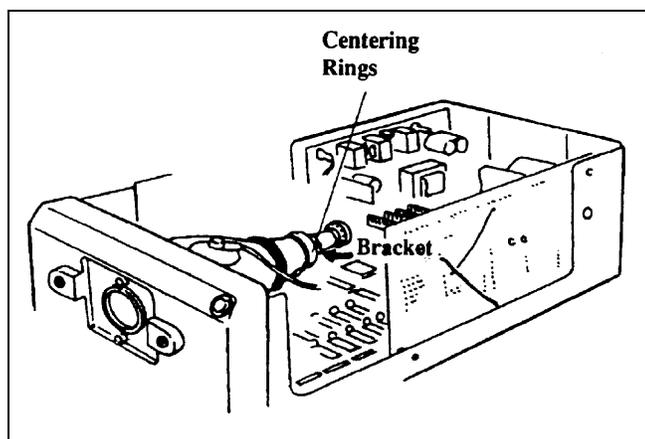

Figure 4-40. Centering Rings
If the tennis court is tilted, loosen the bracket on the CRT tube (Figure 4-40) and turn the yoke to align the image with the face of the CRT.
4. Cut the hot-melt adhesive securing the two centering rings on the yoke of the CRT (Figure 4-40).